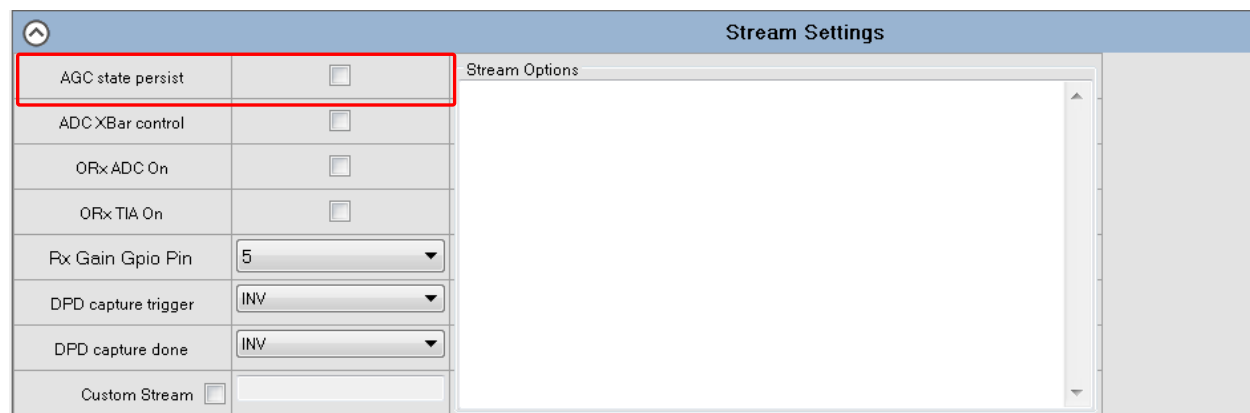

Figure 88. TES Stream Settings Control Window to Enable Rx Gain Mode Switching using GPIO
To enable Rx GPIO gain mode switching, the use needs to create a stream file using the TES with the **Rx Gain Gpio Pin** set to the desired GPIO pin as shown in Figure 88.
1. Generate the stream with the correct GPIO set to the Rx Gain GPIO tag as shown in Figure 88.